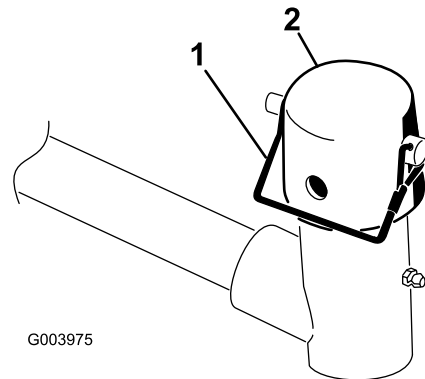

Figure 7
6. Remove the snapper pin and the cap from the lift arm pivot yoke (Figure 7).
10. Secure the cap and the carrier-frame shaft to the lift-arm yoke with the snapper pin (Figure 7).